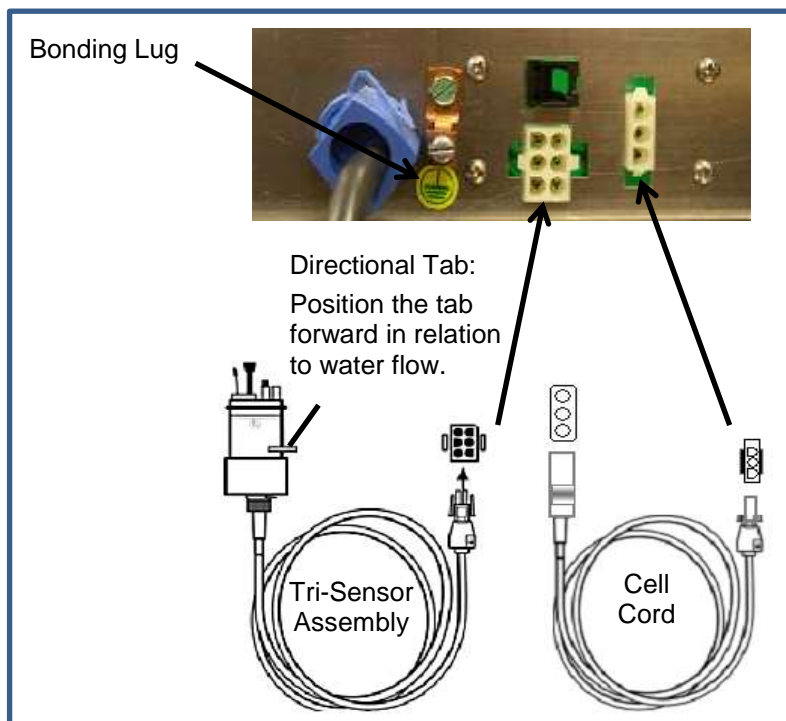

Figure 8
- Connect the green ground wire to the supply ground. See bonding lug in Figure 8.